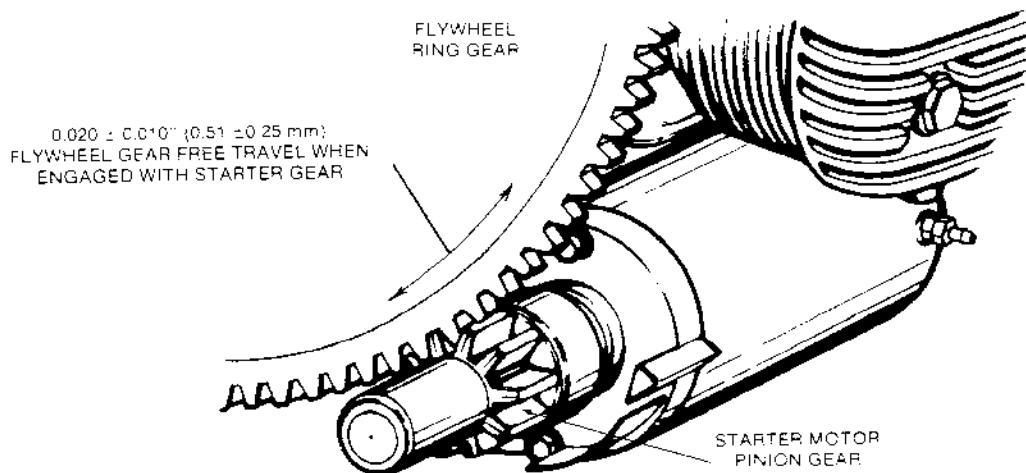

FIGURE 22. CHECKING STARTER GEAR LASH
5. Measure the amount of free travel (lash) between the pinion gear teeth and the ring gear teeth, as shown in Figure 22. Proper lash is 0.020  $\pm$  0.010 in. (0.51  $\pm$  0.25 mm). Loosen and adjust the starter motor, as necessary, to obtain the correct setting.